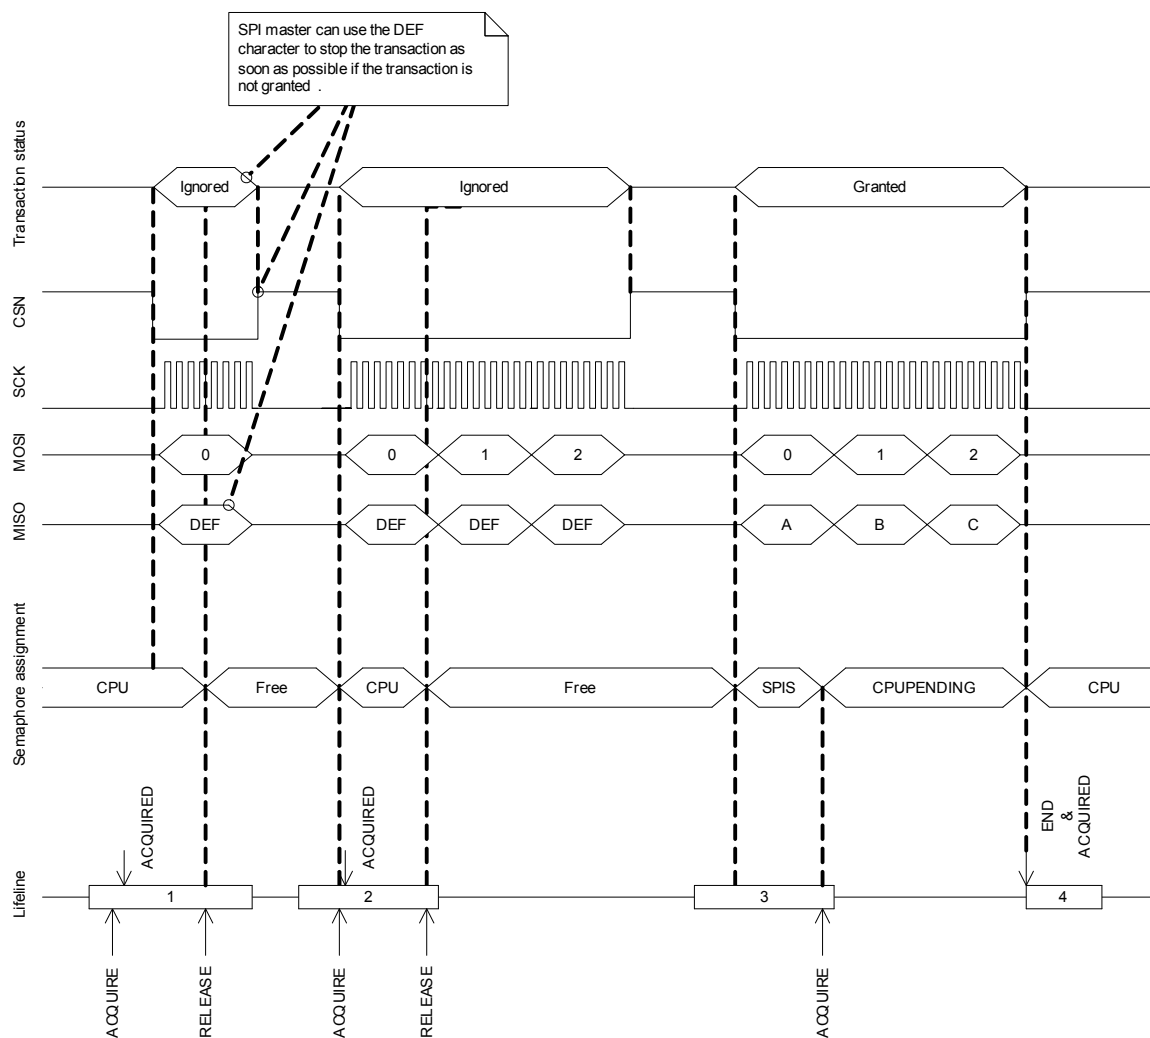

Figure 61 SPI transaction when shortcut between END and ACQUIRE is enabled.
Before the CPU can safely update the RXDPTR and TXDPTR pointers it must first acquire the SPI semaphore. The CPU can acquire the semaphore by triggering the ACQUIRE task and then receiving the ACQUIRED event. When the CPU has updated the RXDPTR and TXDPTR pointers the CPU must release the semaphore before the SPI slave will be able to acquire it. The CPU releases the semaphore by triggering the RELEASE task. This is illustrated in **Figure 61** on page 146. Triggering the RELEASE task when the semaphore is not granted to the CPU will have no effect.
MOSI will be discarded, and the DEF (default) character will be clocked out on the MISO line throughout the whole transaction. This will also be the case even if the semaphore is released by the CPU during the transaction. In case of a race condition where the CPU and the SPI slave try to acquire the semaphore at the same time, as illustrated in lifeline item 2 in **Figure 61** on page 146, the semaphore will be granted to the CPU.